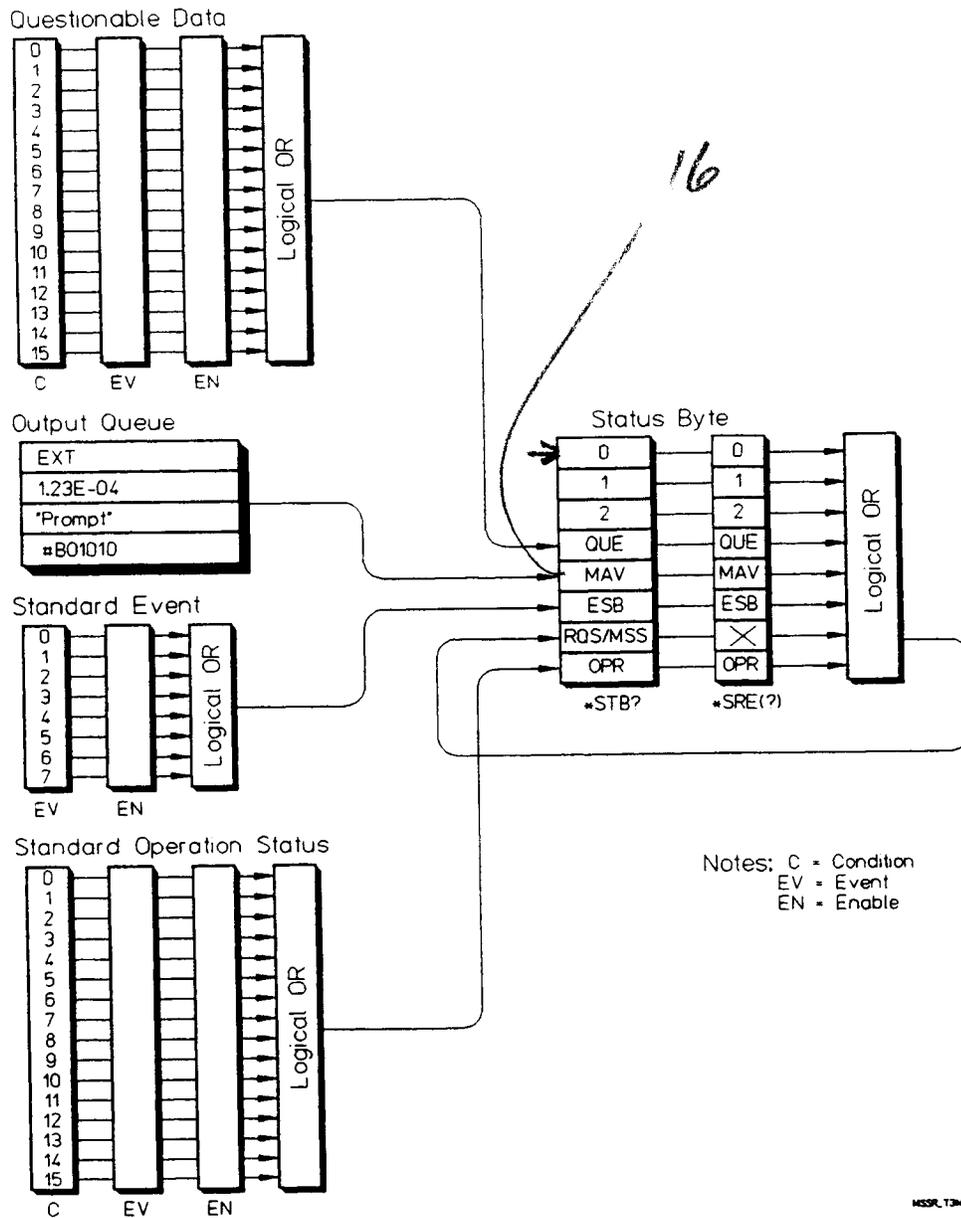

Figure 5-1. Status System Registers
STATUS The STATUS subsystem lets you examine the status of the counter by monitoring the Operation Status Register and the Questionable Data/Signal Register. *Figure 5-1* shows all of the counter's status registers.
The Operation Status Register group consists of a condition (C) register, an event (EV) register, and an enable (EN) register as shown in *Figure 5-1*. The commands in the STATUS:OPERation subsystem control and monitor these registers.
The Questionable Data Register group consists of a condition register, an event register, and an enable register as shown in *Figure 5-1*. The commands in the STATus:QUESTionable subsystem control and monitor these registers.